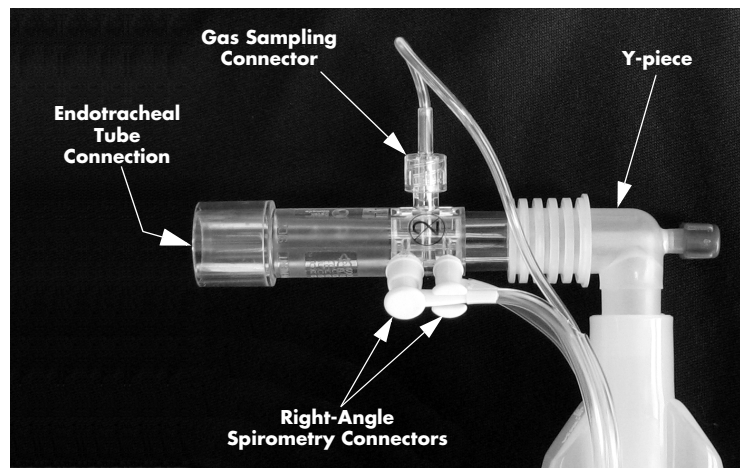

FIGURE 2-49 Connections on the Spirometry Sensor
3. Connect the Gas Sampling Line and the Spirometry Tubes with the Right-Angle Spirometry Connectors to the Spirometry Sensor as shown in FIGURE 2-49.